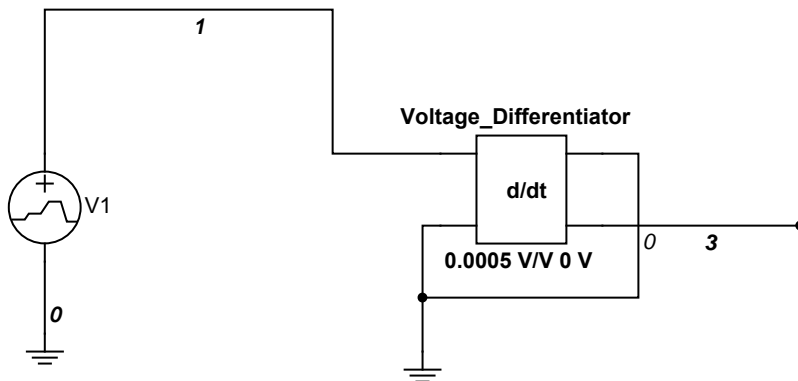

Figure 8-16. Inverting Derivative Controller
1. Build the circuit shown in Figure 8-16 using Multisim.